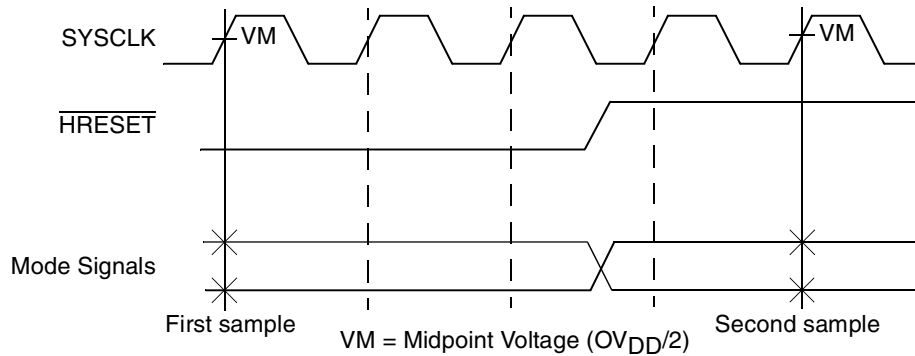

Figure 5. Mode Input Timing Diagram
Table 8 provides the processor bus AC timing specifications for the MPC7410 as defined in Figure 4 and Figure 5. Timing specifications for the L2 bus are provided in Section 4.2.3, "L2 Clock AC Specifications."
2. The symbology used for timing specifications herein follows the pattern of  $t_{(\text{signal})(\text{state})(\text{reference})(\text{state})}$  for inputs and  $t_{(\text{reference})(\text{state})(\text{signal})(\text{state})}$  for outputs. For example,  $t_{\text{VKH}}$  symbolizes the time input signals (I) reach the valid state (V) relative to the SYSCLK reference (K) going to the high (H) state or input setup time. And  $t_{\text{KHOV}}$  symbolizes the time from SYSCLK(K) going high (H) until outputs (O) are valid (V) or output valid time. Input hold time can be read as the time that the input signal (I) went invalid (X) with respect to the rising clock edge (KH)— note the position of the reference and its state for inputs—and output hold time can be read as the time from the rising edge (KH) until the output went invalid (OX).
4. Includes mode select signals: BVSEL, EMODE, L2VSEL. See Figure 5 for mode select timing with respect to  $\overline{\text{HRESET}}$ .
Figure 5 provides the mode select input timing diagram for the MPC7410. The mode select inputs are sampled twice, once before and once after HRESET negation.